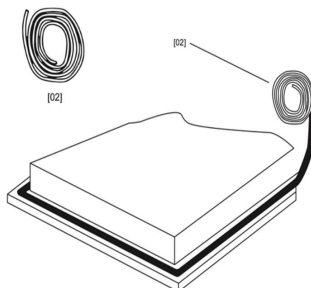

Figure 9.1
3. Spread the seal [02] around the edge of the hob. (Refer to Figure 9.1)